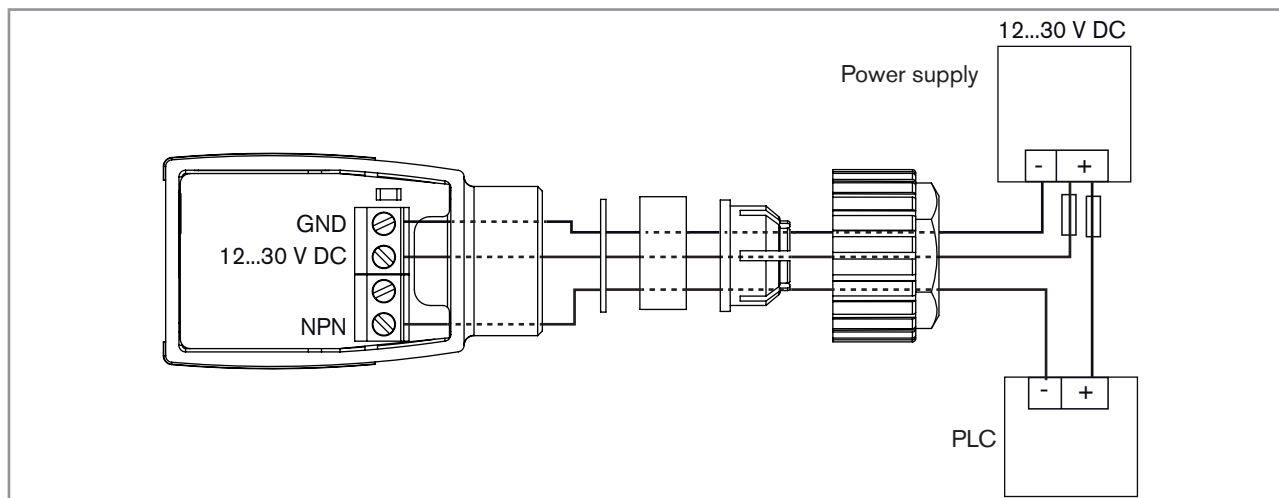
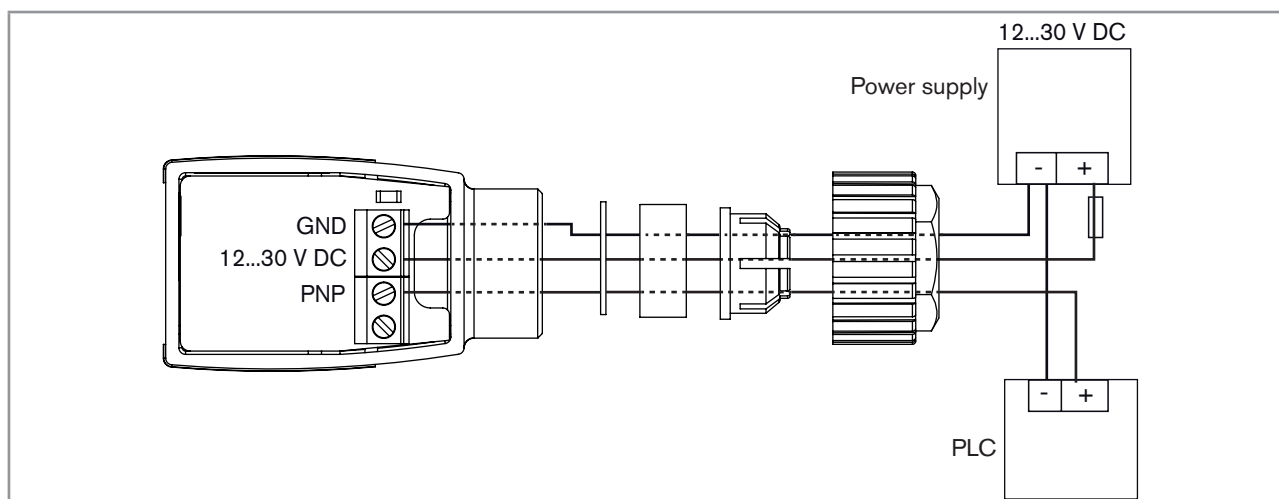

Fig. 4: Device with cable gland – NPN connection of the transistor output
Fig. 5: Device with cable gland – PNP connection of the transistor output
- Connect the transistor output. The transistor output can be connected in the following modes: NPN or PNP. Refer to Fig. 4 or Fig. 5.